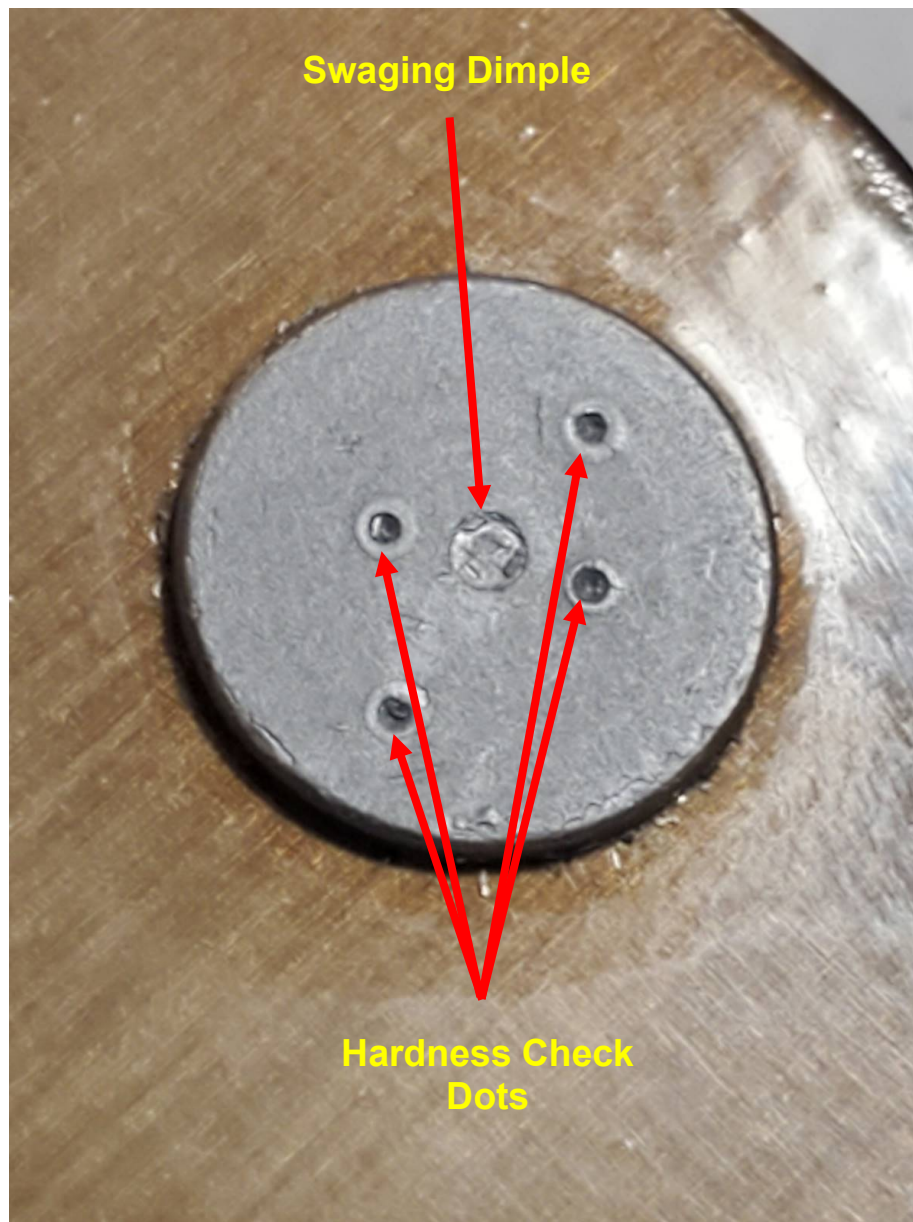

Figure 1 – Hardness check dots and swaging dimple
4. If the pivot pin on the installed expandable blade bolts is the same design as shown in Figure 6, go to step 9. If the pivot pin on the installed expandable blade bolts is the same design as shown on Figures 1 through 5, proceed as follows;
Some pivot pins may have one or more hardness check dots on the head (Figure 1). These should not be confused with the swaging dimple that should be in the center of the head of the pivot pin. The presence of a dimple indicates that the pin has been swaged properly. In some cases, there may be no dimple, or the dimple may be difficult to see. The absence of a dimple is not necessarily an indication that the pin was not swaged properly. In doubt, do the proof load check in accordance with step 7 of this ASB.
5. Perform a visual inspection of the pivot pin to verify if it has a swaging dimple in the center of the head of the pivot pin (Figure 1 and 3).